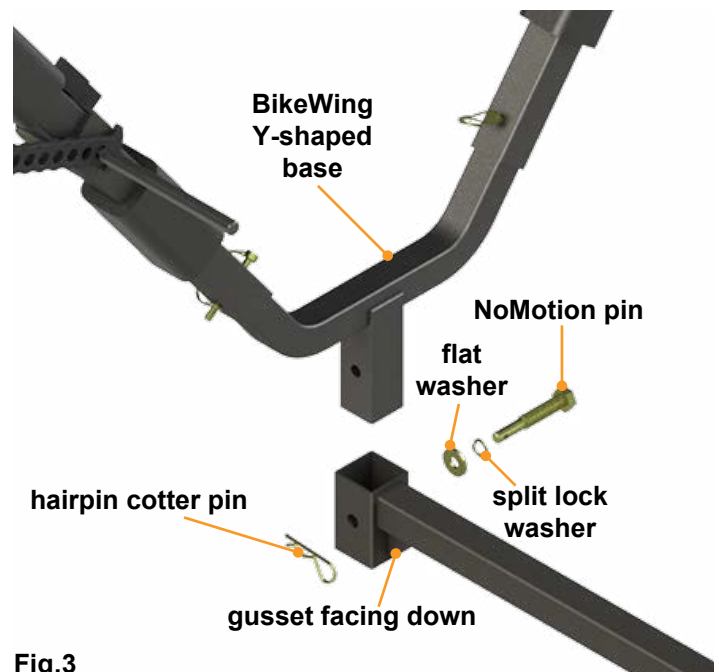

Fig.3
2. Attach the BikeWing Y-shaped base to the end of the Bump-IT shank with a NoMotion hitch pin and washers (**Fig.3**).